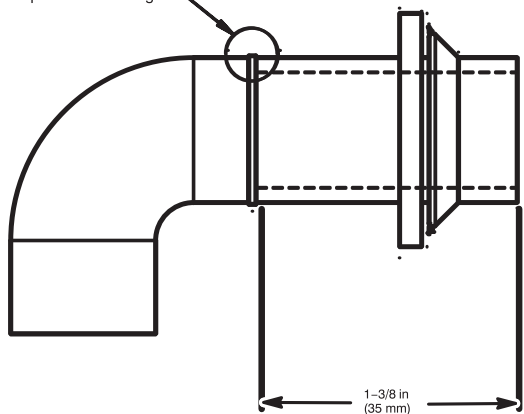

Fig. 16 – Modify Rubber Drain Elbow
- The Z-pipe is connected to the condensate trap and the outside of the furnace by modifying the formed rubber drain elbow as shown in Fig. 16.
- Remove the formed grommet from the rubber drain elbow by cutting the elbow along the vertical line located about 1–3/8 in. (35 mm) away from the formed grommet. See Fig. 16. **DO NOT DISCARD THE FORMED GROMMET OR THE RUBBER ELBOW.** Both of these pieces will be used.
TIP FROM CONTRACTORS: When installing the furnace horizontally, use the entire drain elbow (that is, do NOT cut as shown in Fig. 16 to connect the trap to the drain line. This helps to prevent bumps and shocks to the drain line from damaging the furnace drain trap. Avoid misalignment of the drain pipe which may cause kinks in the elbow.